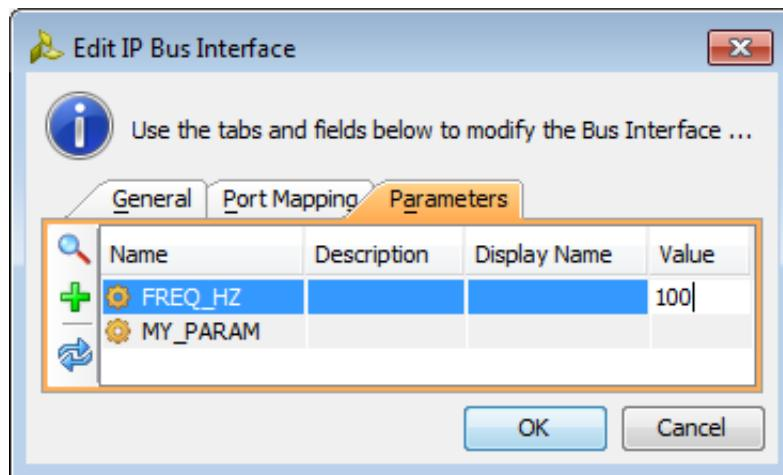

Figure 8-66: Edit IP Bus Interface: Populated with Parameters
3. To edit the information, select the cell of the parameter in the column and enter the revised information (Figure 8-66).